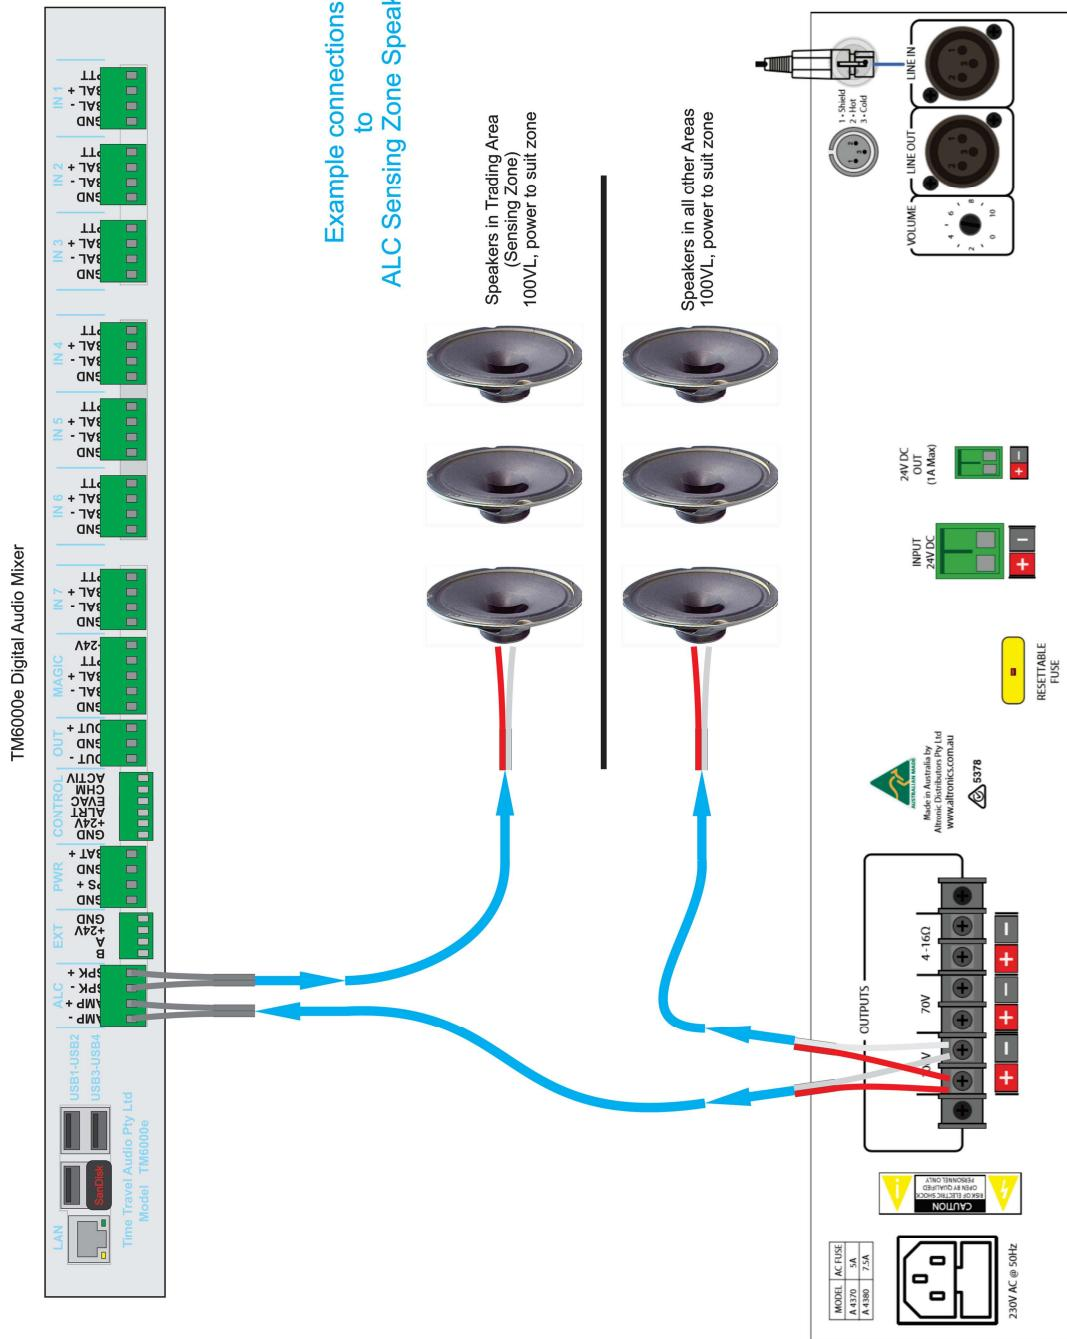

Figure 5 - TM6000e Example Connections – ALC Sensing Zone Speakers
| Figure 5 - TM6000e Example Connections – ALC Sensing Zone Speakers..... | 9 |
- a) Connect as per figure 5 on page 9